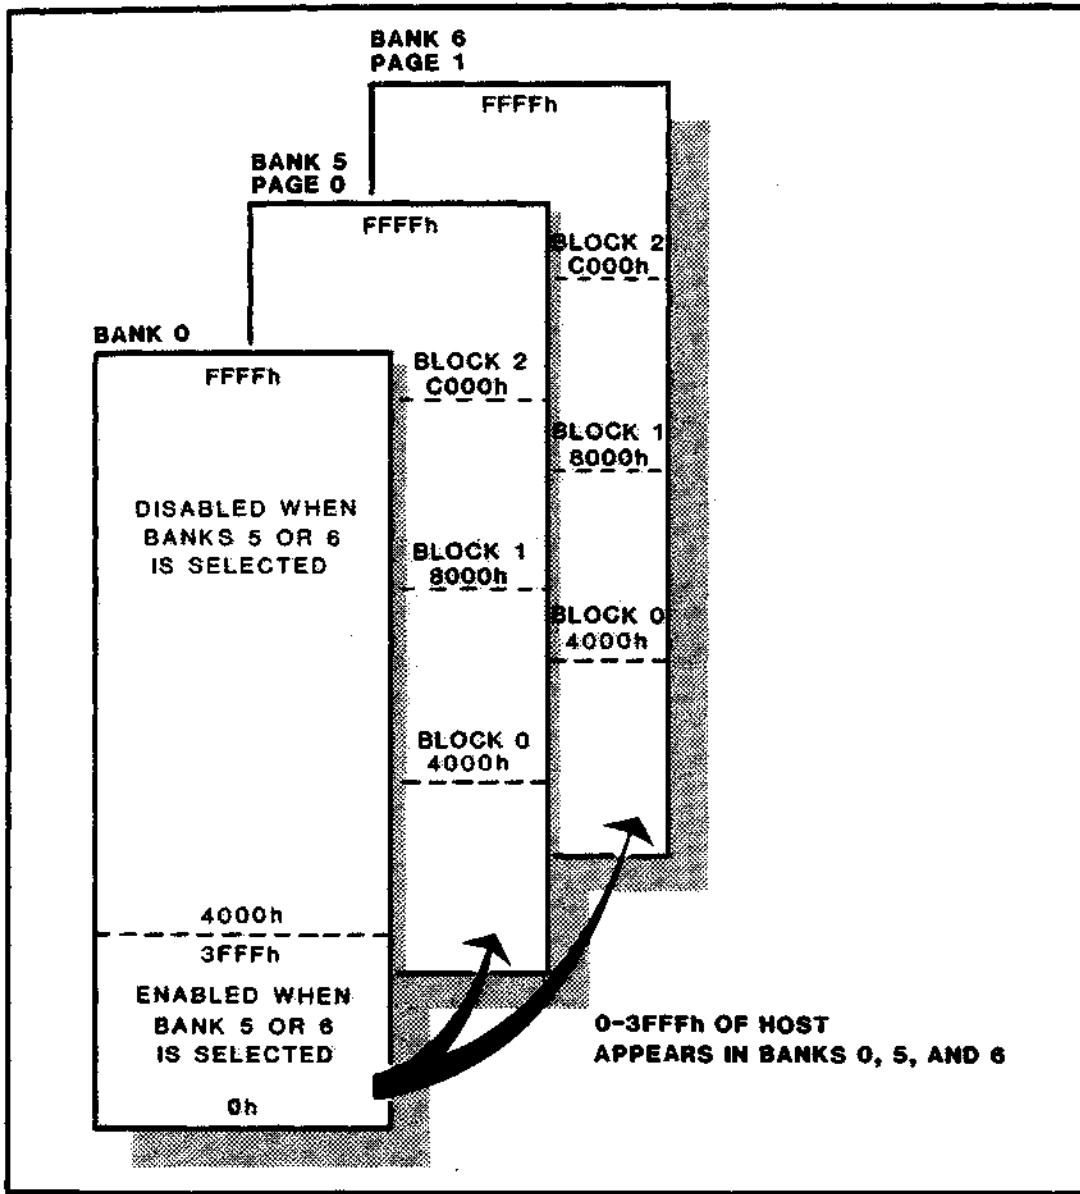
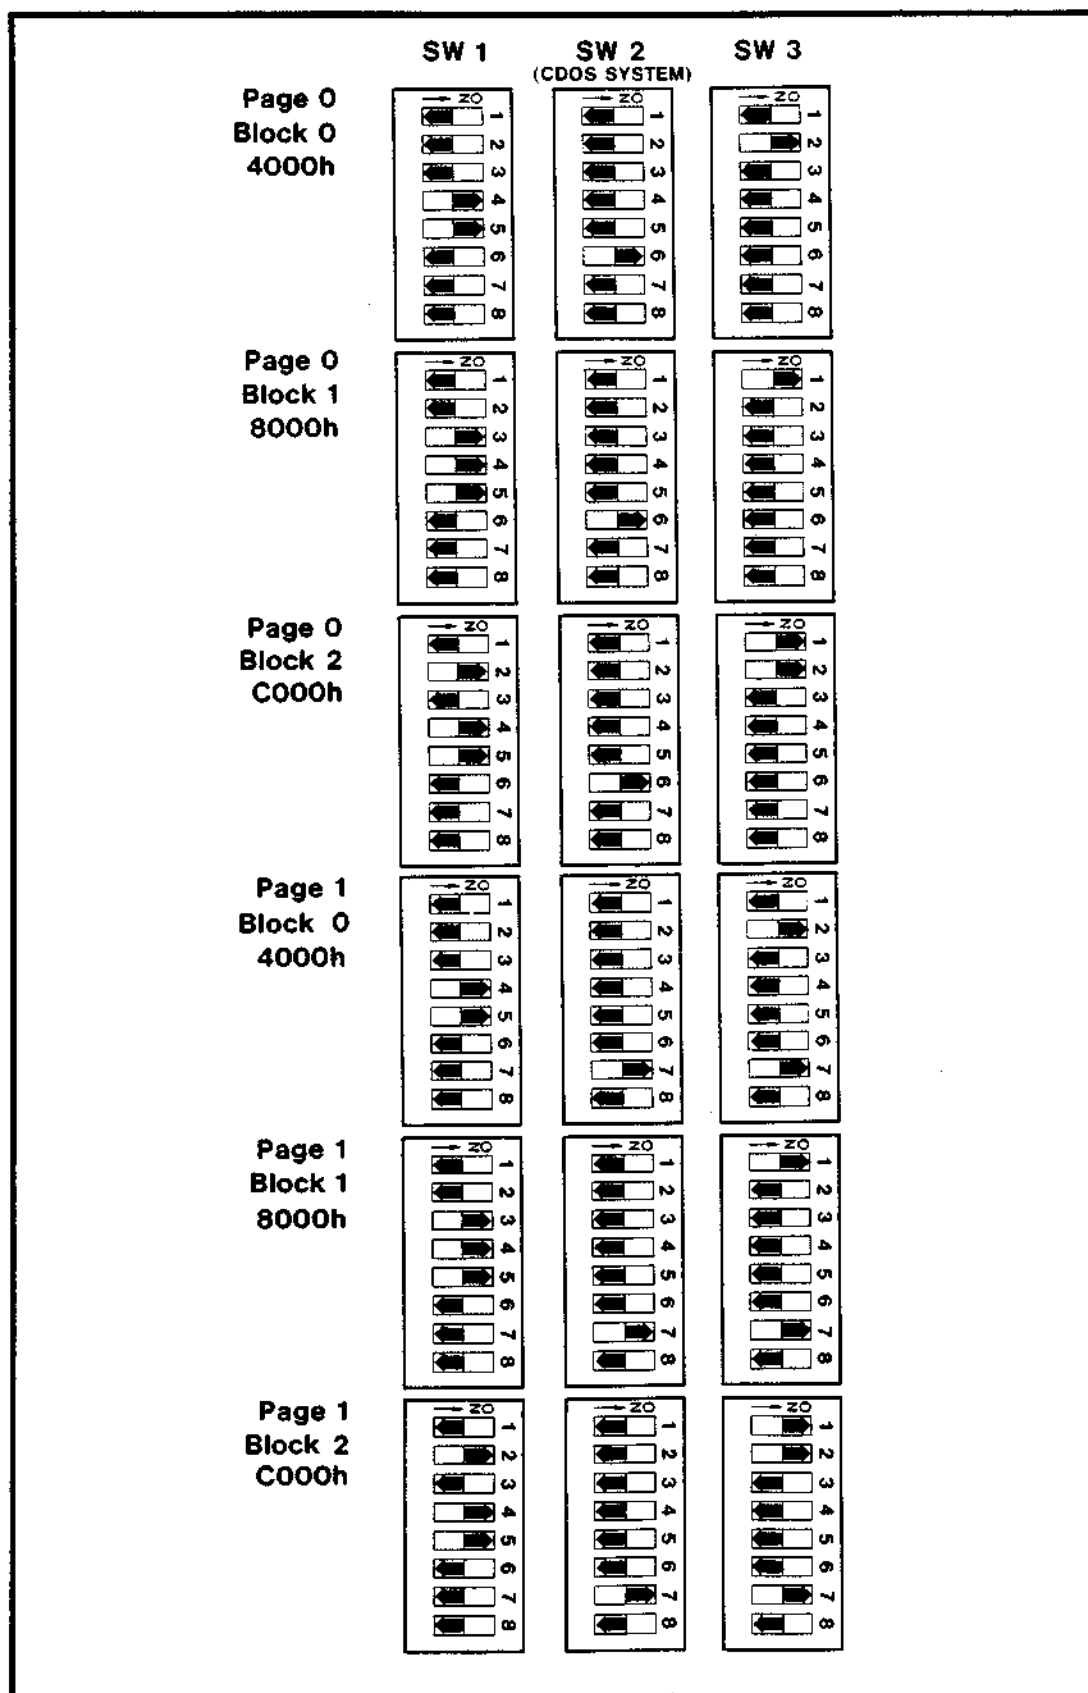

Figure 3: CDOS SYSTEM WITH SIX 16KTPs
Figure 4: STANDARD SWITCH SETTINGS FOR THE 16KTPs
For most CDOS applications (and in particular when using Cromemco CDOS software) a standard system configuration with regard to bank placement and switch settings should be observed. In this configuration, the main user bank (hereafter referred to as host memory) appears in bank 0. If one page of memory (consisting of 3 16KTPs) is used, it should appear in bank 5 and from the point of view of the SDI appear as page 0. If a second page of memory is used, these boards should be set to bank 6 and appear to the SDI as page 1. Both 48K pages (if two are present) should be addressed from 4000h to FFFFh, i.e., the upper 48K of memory. This means that when 3 16KTPs are used to comprise a single page, their base addresses should be 4000h, 8000h and C000h respectively. Finally, because of the 16KTPs special memory disable feature, the host memory, bank 0, should be set to also appear in bank 5, if SDI page 0 is present, or banks 5 and 6, if both SDI pages (0 and 1) are present. This apparent memory overlap is allowed because the 16KTP disables all memory which lies in its bank and memory area while the 16KTP is being written into or read from. This system configuration is summarized in Figure 3 and Table 1. The switch settings for this configuration are shown in Figure 4.
From the point of view of the graphics programmer, the host memory from 4000h to FFFFh will appear only in bank 0. Thus, when it is necessary to switch to bank 5 or bank 6 in order to manipulate the image memory, that portion of the program which handles the bank select and subsequent image manipulation must be located in host memory below 4000h. This is because host addresses 0-3FFFh appear in banks 5 and 6; when these banks are selected any program segment which appears in this address range will continue to operate. A typical organization of software for the SDI/16KTP system is shown in Figure 3.
2. Copy the switch settings of Figure 4 onto all of the 16KTPs and also onto the bank select switch of the host memory card(s).